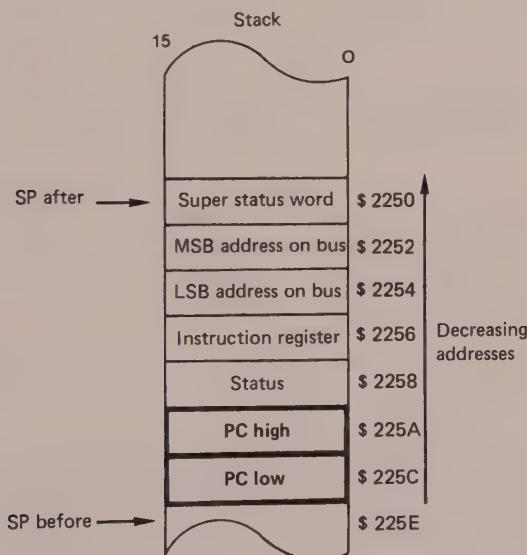

Figure 7.1
The contents of the supervisor stack after the bus error and before the first instruction of the exception program are shown in figure 7.1 (see also demonstration listing).
We then come to instruction MOVEM.L (SP)+, D0-D7/A0-A6 which restores the context previously saved to the stack. After this instruction the stack pointer SP points to the super status word (see figure 7.1).
Certainly, if one were to believe figure 7.1 the super status word would be loaded into register SR, and the address sent along the bus at the moment of the error to the PC. The reader can imagine the problems that this would cause.